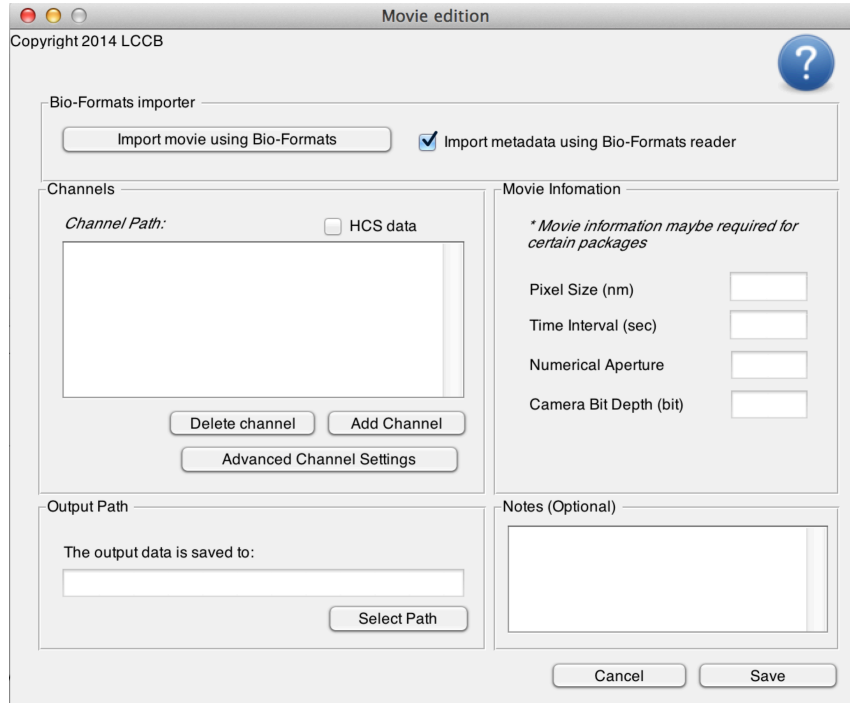

Figure 2. Movie edition window
2. Create a new movie database by clicking on **New**. This will bring up the movie edition interface (**Figure 2**).